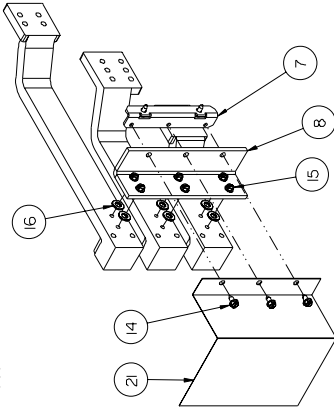

Figure 5
5. Reference fig. 5 - Attach the Phase Bracket and Brace. Insert one 1/4-20 X 5/8" (item 15) Screw into each of the two 0.312" diameter holes at the top of the Phase Brace (item 8) and through one 5/16" Washer (item 16) each and then into the corresponding 0.228" diameter holes in the Long Phase Connector (item 3) and tighten. Repeat this step for the Medium and Short Phase Connectors (items 4 & 5) using the remaining 0.312" diameter holes in the Phase Brace.